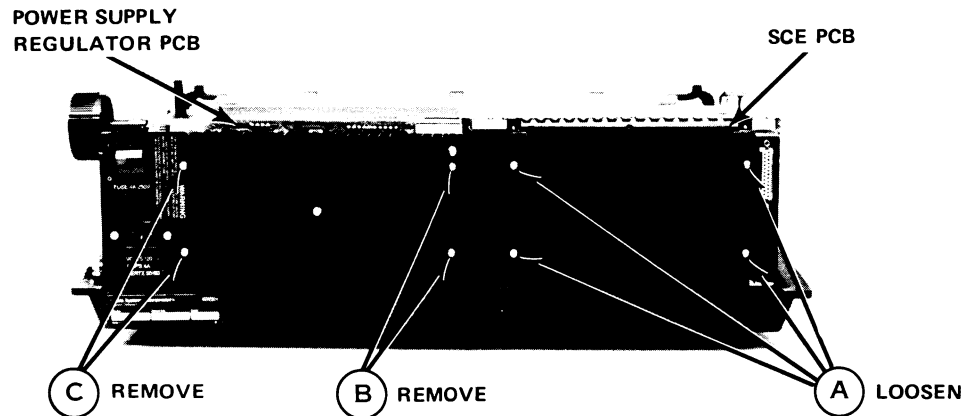

Figure 4-6. MOUNTING SCREWS FOR SCE AND P/S REGULATOR CIRCUIT BOARDS
- 5) Loosen (no more than 3 turns) the four screws (A) holding the SCE board assembly in position as shown in Figure 4-6.
- 4) Refer to Figure 4-6.